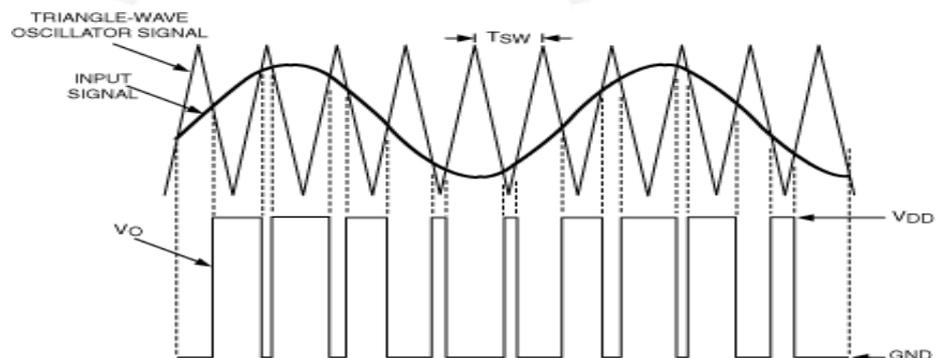

Fig 5.3.4: Class D operation
➤ Fig5.3.4 :Heat Sink(a) Top view (b) Bottom view
- In Fig5.3.4 B – Base , E – Emitter & C – Collector terminal. From the above figure 14(b) we can notice that the Collector is connected to the metal top (chasis or heat sink) which has more area than Base & Emitter. So the heat generated at the output junction(collector junction) is dissipated fast. If more number of devices are connected to the same sink the INSULATORS are needed to shield individually. Usually Nylon material is used to ensure.